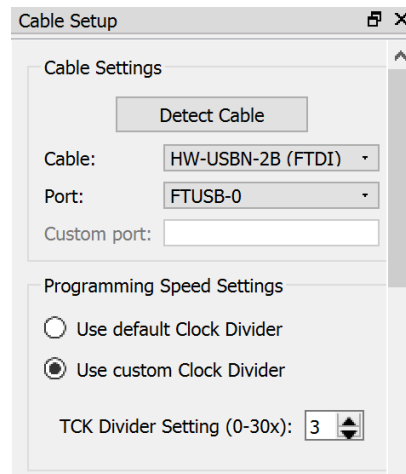

Figure 7.1. TCK Frequency Setting
- If you are getting a verification error while dumping the .bit file, try changing the TCK frequency to a value greater than 4. The TCK Divider Setting option is in the Cable Setup dialog box of the Lattice Radiant Programmer Window, as shown in Figure 7.1. Restart programming by clicking the Program button as shown in Figure 5.16.